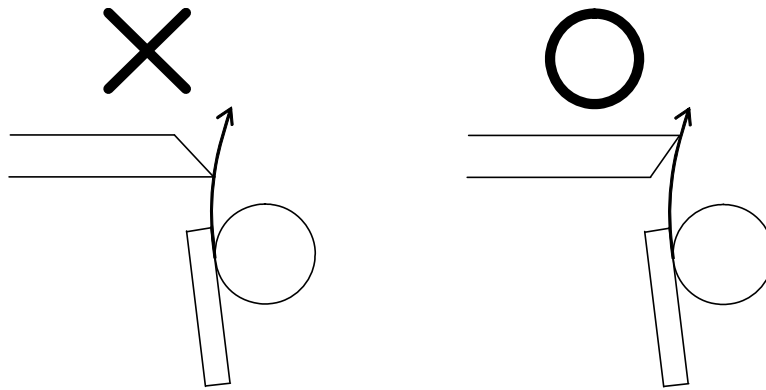

Figure 6-9 Blade Edge
- Design the blade edge of the cutter as shown in the right figure of Figure 6-9 so that the blade edge can guide the thermal paper edge after cutting. If designing the blade edge as shown in the left figure, the paper edge may be caught by the blade edge and result in the thermal paper edge to be caught inside of the cutter.